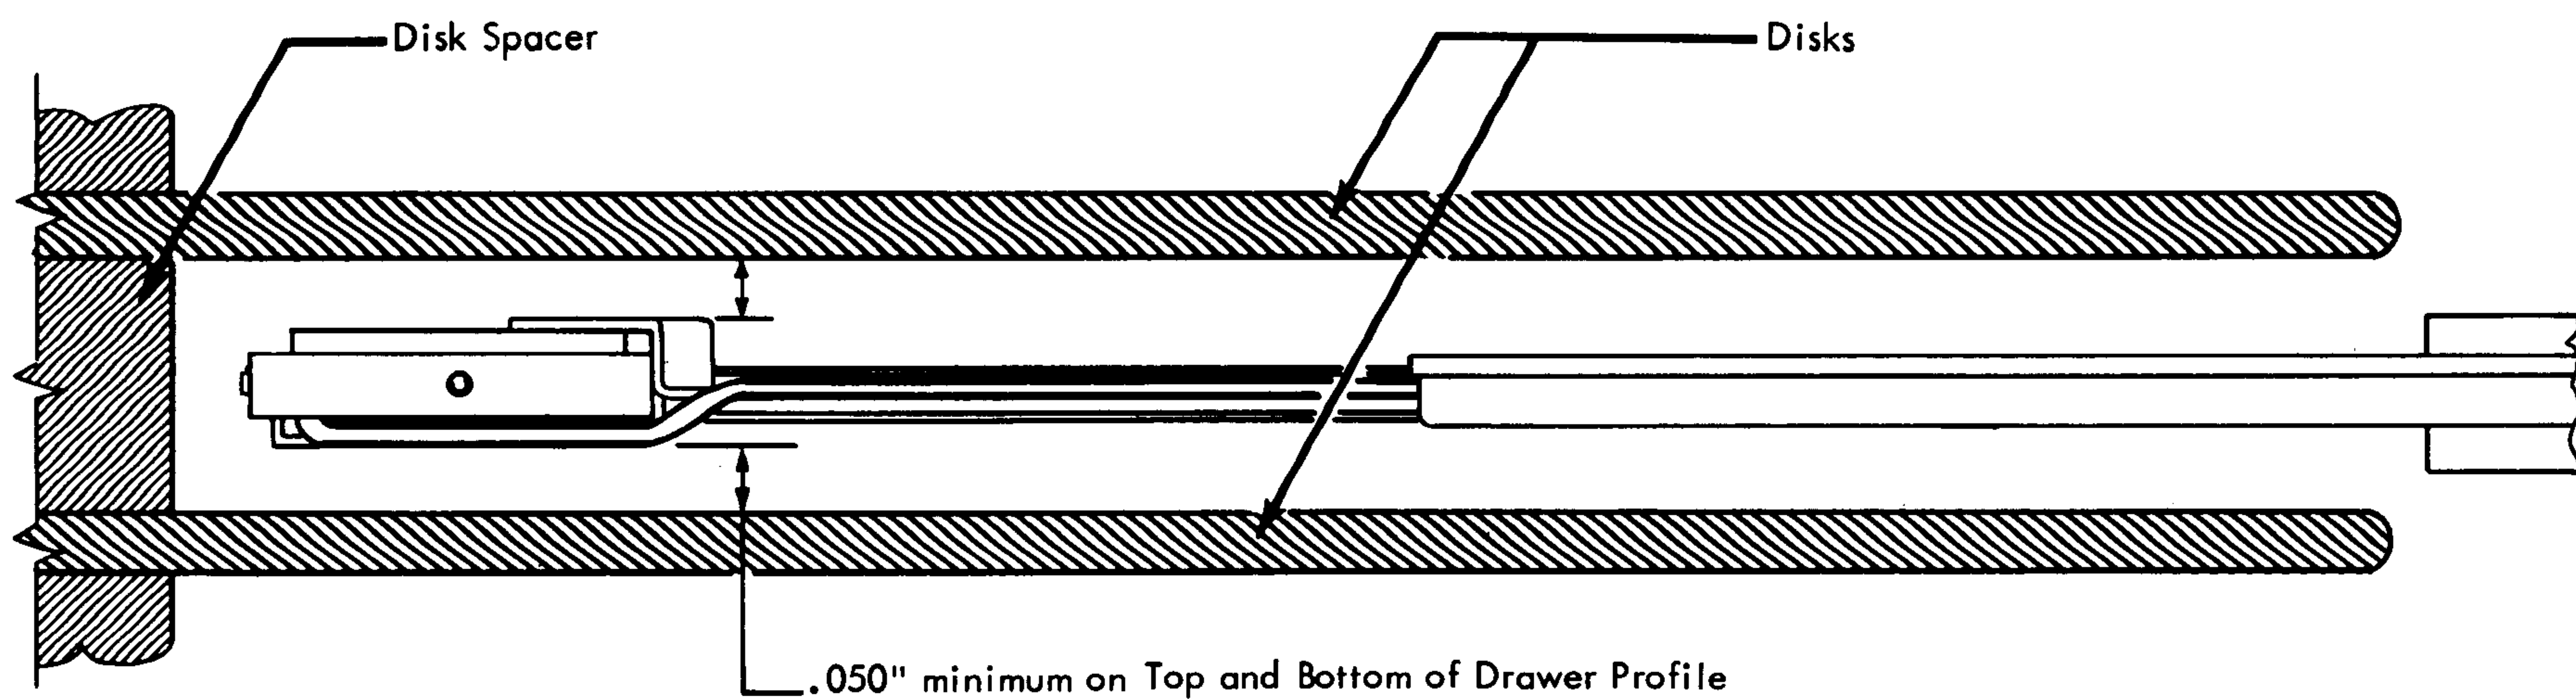
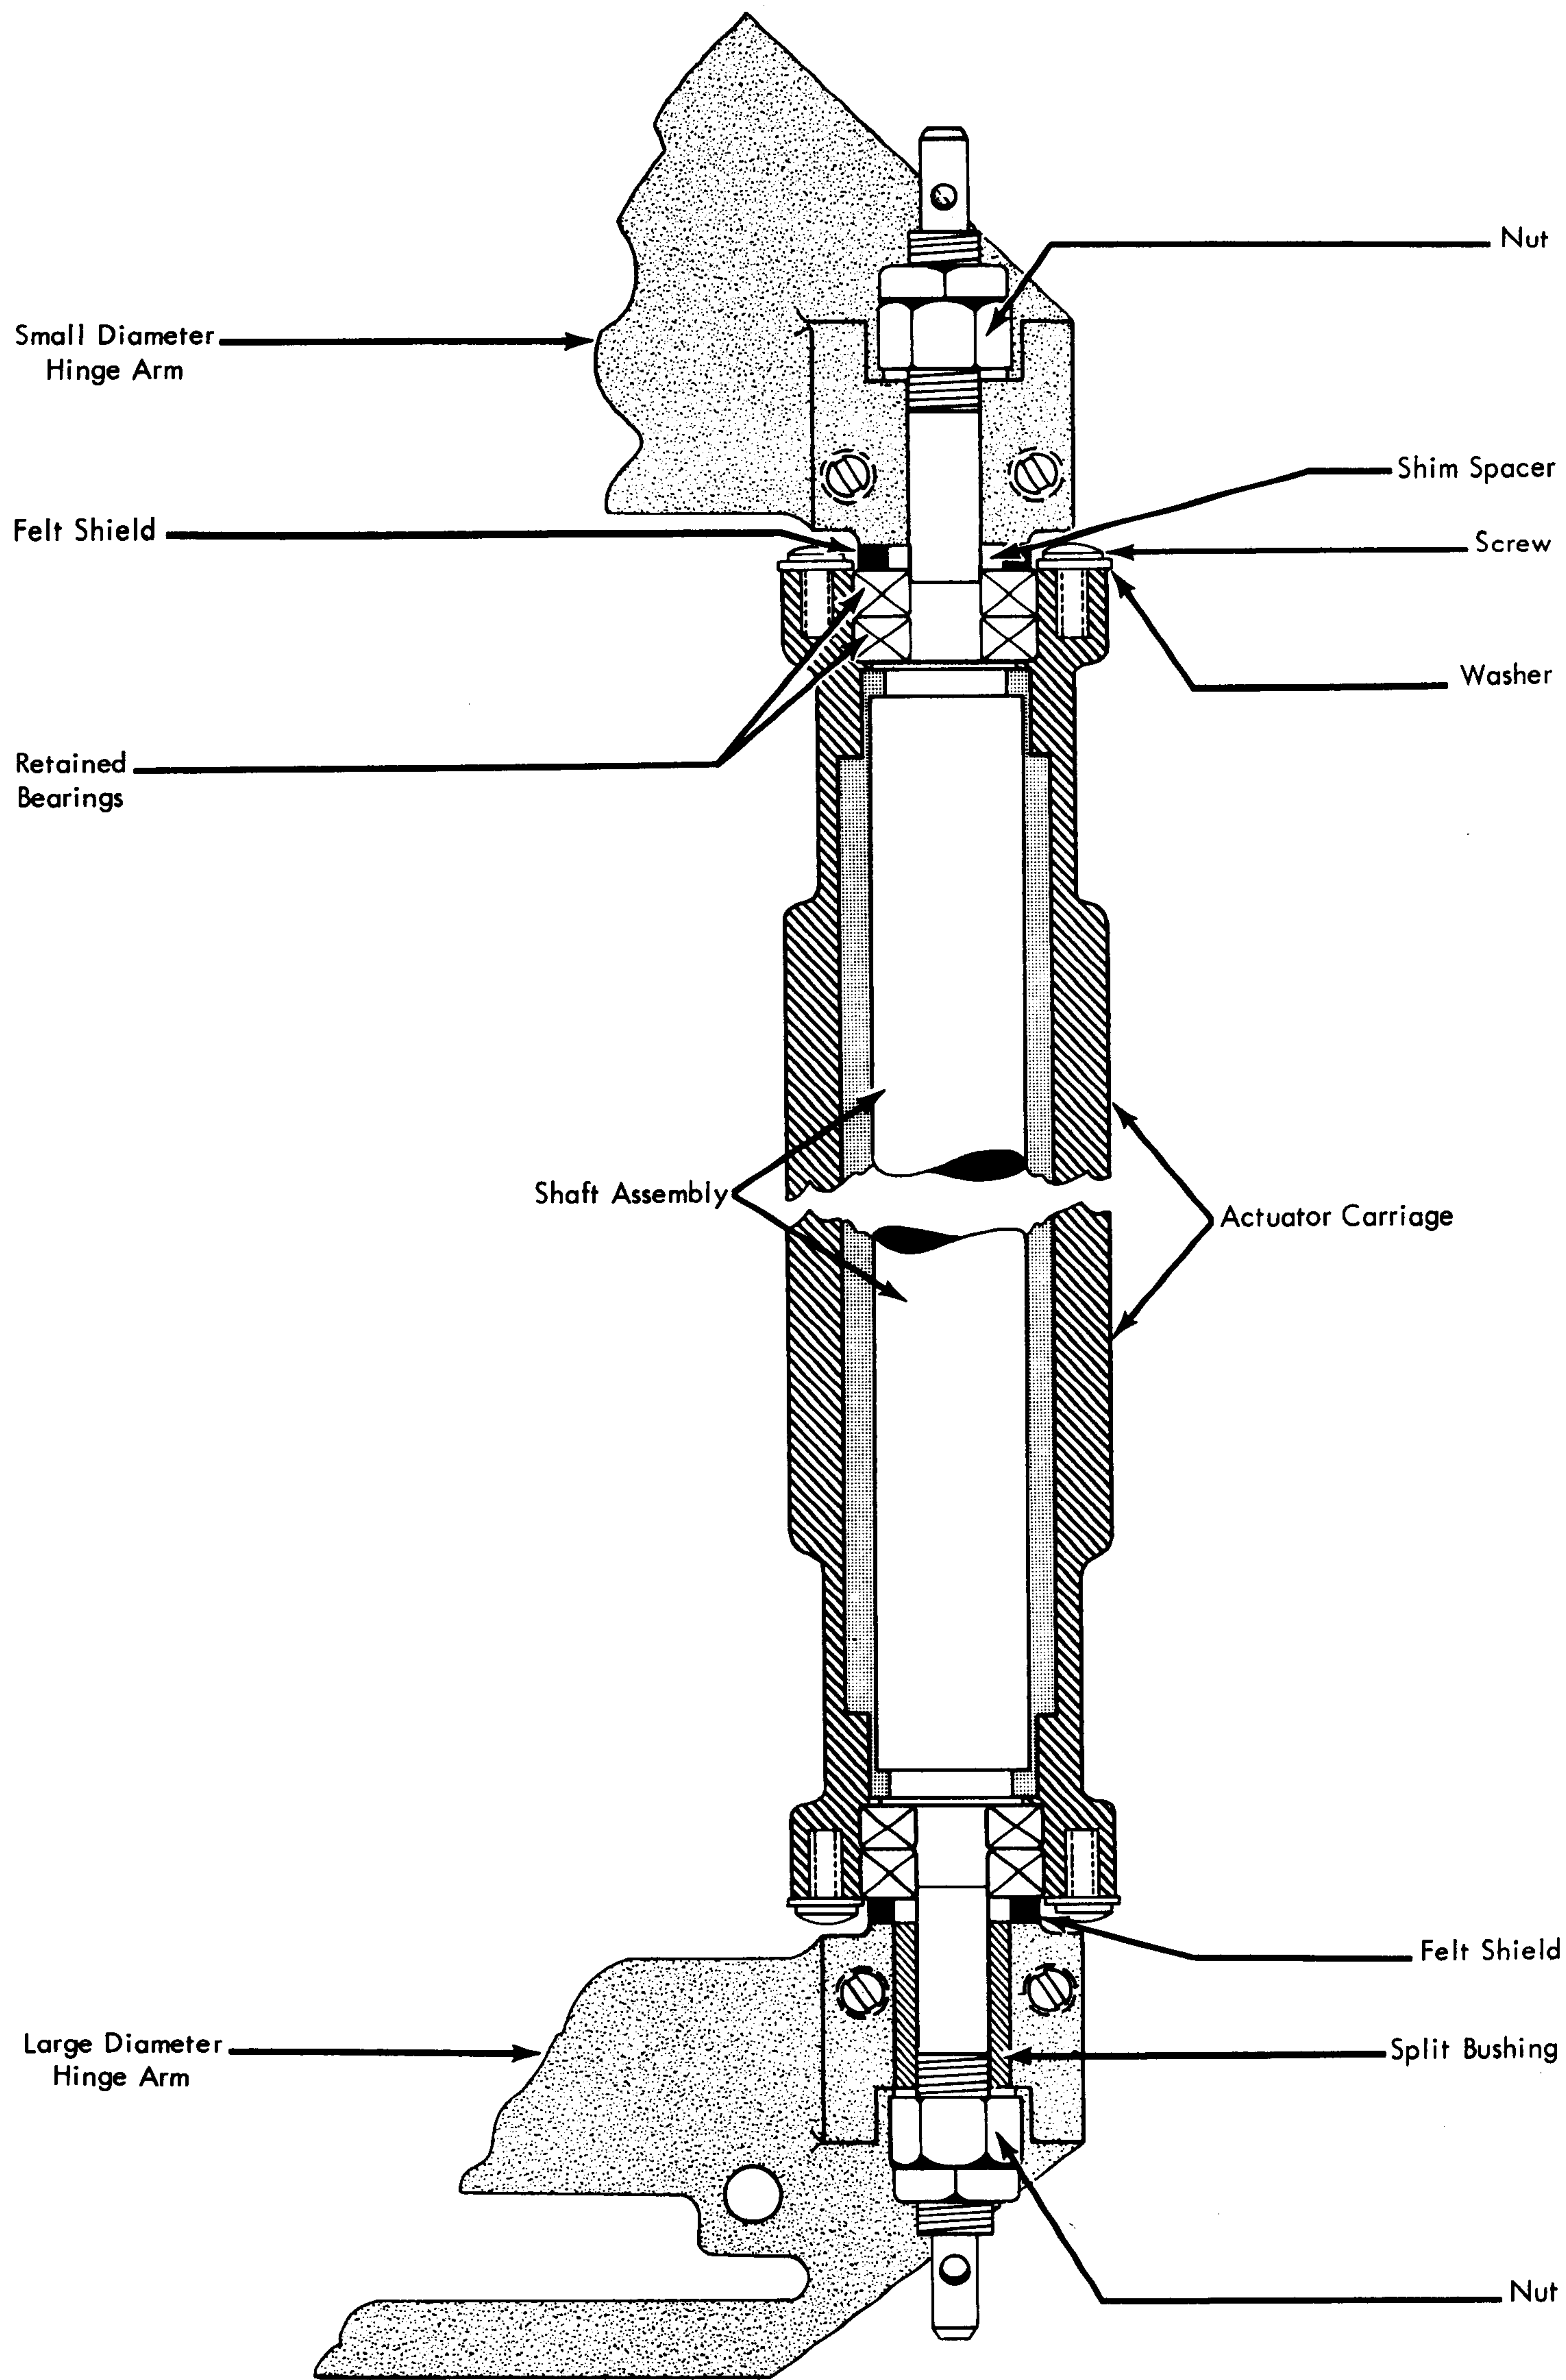

Figure 2-17. Drawer Assembly Profile
Figure 2-18. Hinge Shaft Assembly
- a. Move carriage to outer limit stop position and check clearance between each head-pair profile and the disk surfaces when the heads are unloaded. The distance between head and disk should be a minimum of .050" on each side of drawer profile (Figure 2-17). Profile should be checked throughout a complete disk revolution by rotating the disks manually. This same procedure should be followed with the carriage positioned against the inner limit stop. To adjust the receiver relative to the disks, add or subtract shims from shim spacers next to small diameter hinge arm (Figure 2-18).